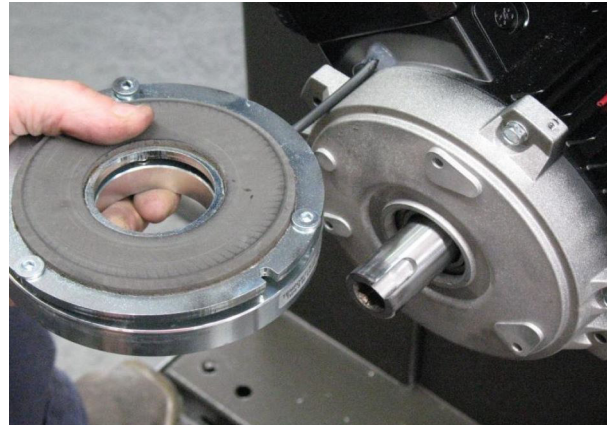

Fig. 23: Brake coil (left)
Step 1: Initial state (Fig. 23).